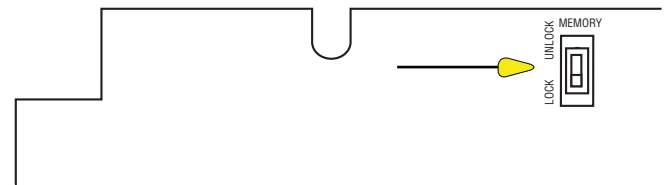

FIG. 33-2 Program Lockout Switch
1. Ensure programming lockout switch in unlocked on the control board. (Fig. 33-2)